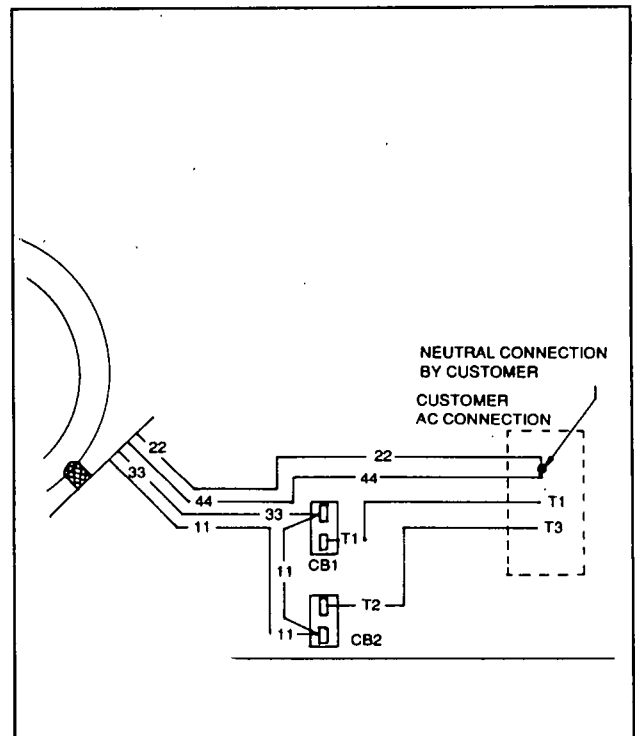
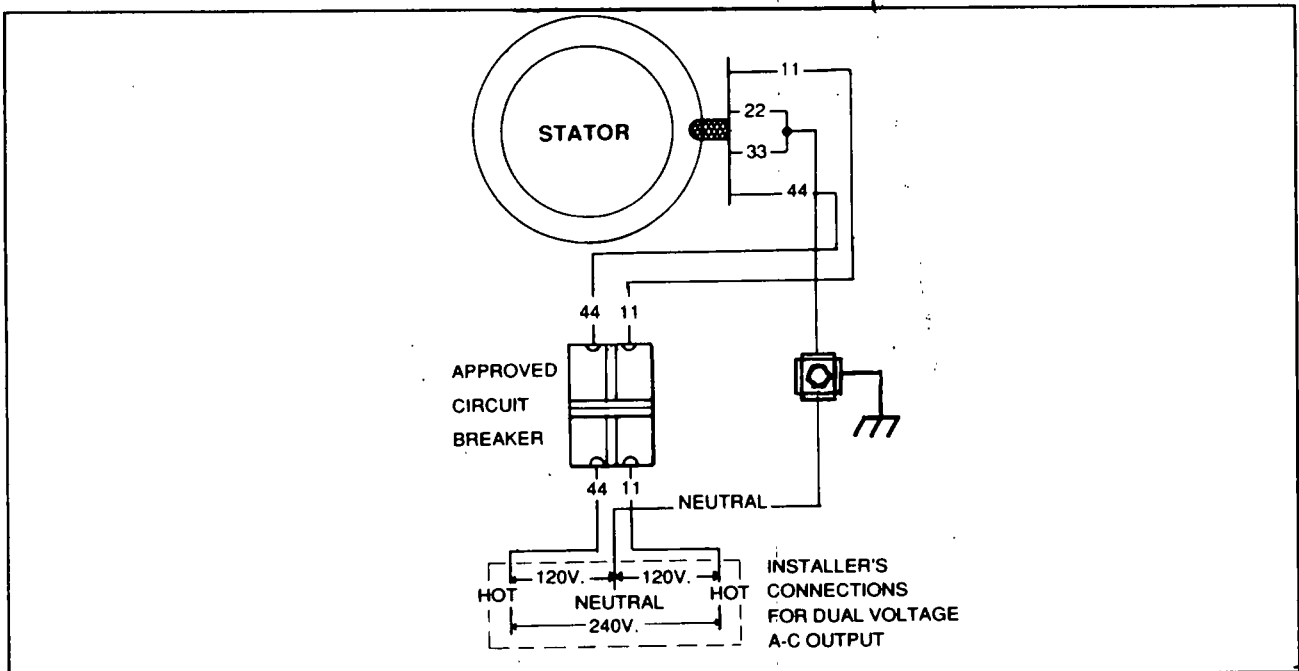

Figure 10. Wiring Connections- 120 Volts Output
Figure 11. Wiring Connections for Dual Voltage Output
2. See Figure 10. Locate stator leads 11 and 33 that connect to circuit breakers CB1 and CB2. Also locate leads T1 (red) and T3 (black). Disconnect all of these leads from the two circuit breakers.
4. Disconnect stator leads 22 and 44 from the grounding terminal (GT).
5. Disconnect one of the two white (T2) leads that attach to the grounding terminal (GT).
7. See Figure 11. Connect stator a-c output leads 11 and 44 to the 2-pole circuit breaker as shown. Attach leads T1 (red) and T3 (black) to the circuit breaker as shown. Connect stator a-c output leads 22 and 33 together. From the junction of leads 22 and 33, route a wire to the grounding terminal (GT).
See Figure 11. The red (T1) and black (T3) leads have become the two "hot" leads. The white (T2) lead has become the "Neutral" lead. Notice that "Neutral" is grounded.